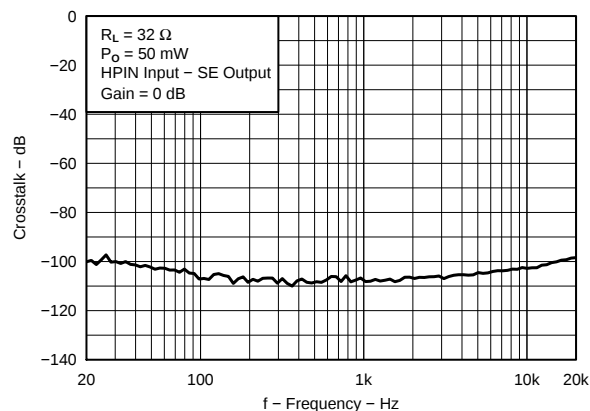

Figure 15.
| Crosstalk (SE)                                      | vs Frequency          | Figure 15                    |